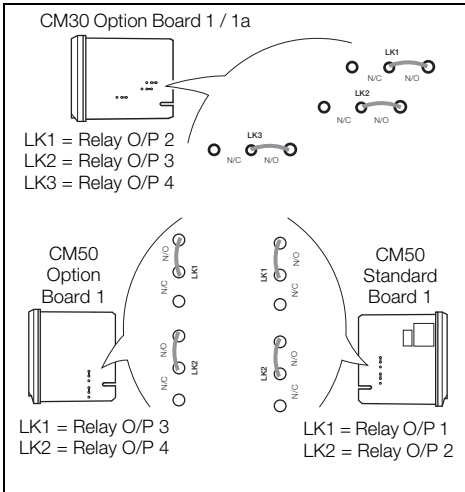

Fig. 4.7 Jumper Links for Relay Outputs
1. The links associated with the relay outputs are shown in Fig. 4.7.